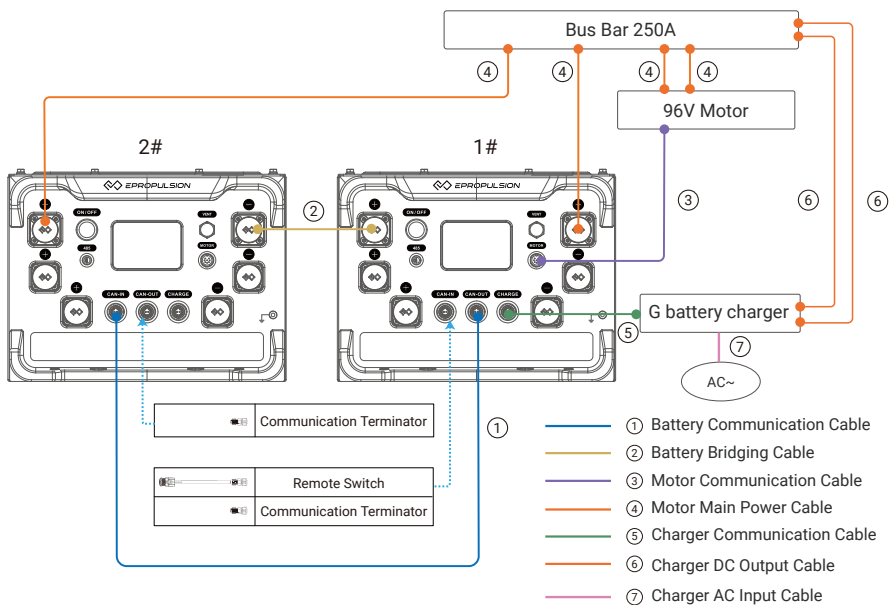

Figure 2-4
The CAN-OUT port of 1# battery (refer to Figure 2-4) is connected to the CAN-IN port of 2# battery.
-  **When the series batteries are connected to the ePropulsion outboard motor, it needs to connect the outboard motor to 1# battery with the communication cable (refer to figure 2-4). And the outboard motor can only be connected with 1# battery.**